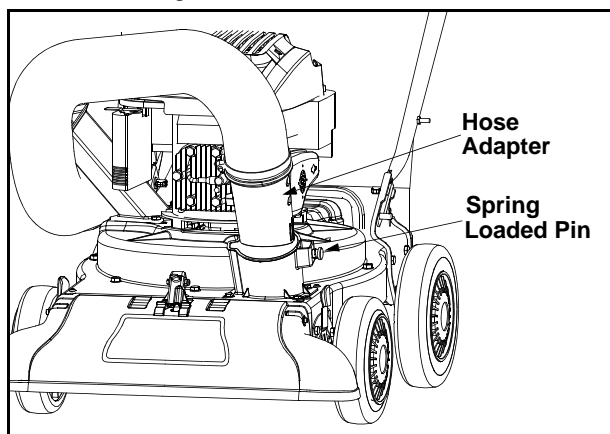

Figure 4
- Slide hose adapter of hose assembly into the base adapter located on the left front of the Yard Vacuum. See Figure 4.